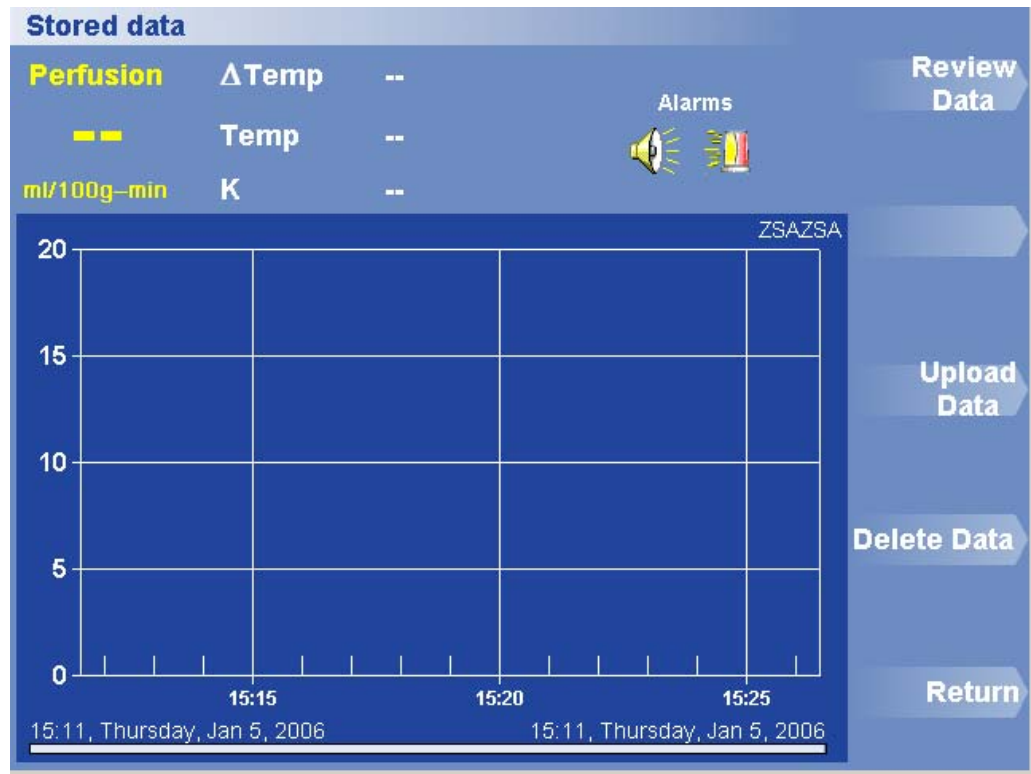

Figure 15. Stored Data Menu
1. Press Stored Data. The Stored Data menu appears (Figure 15).